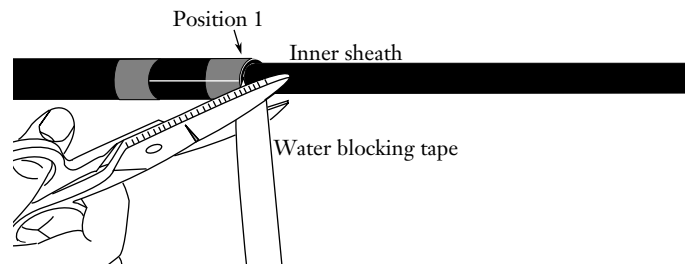

Figure 10
**5.15** Use scissors to cut any remaining water-blocking tape flush with the Position 1 tape wrap (Figure 10).